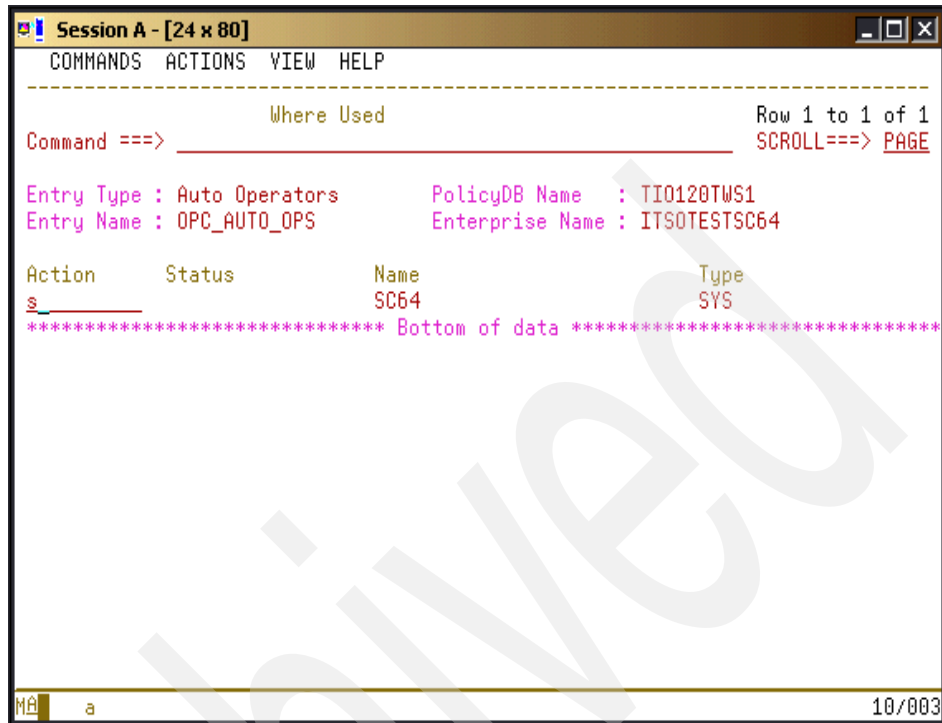

Figure 4-17 OPC_AUTO_OPS Where Used panel
4. Press **PF3** to save and to return to the Policy Selection panel. Place an s next to WHERE USED and press Enter. The Where Used panel that is shown in Figure 4-17 on page 119 displays.